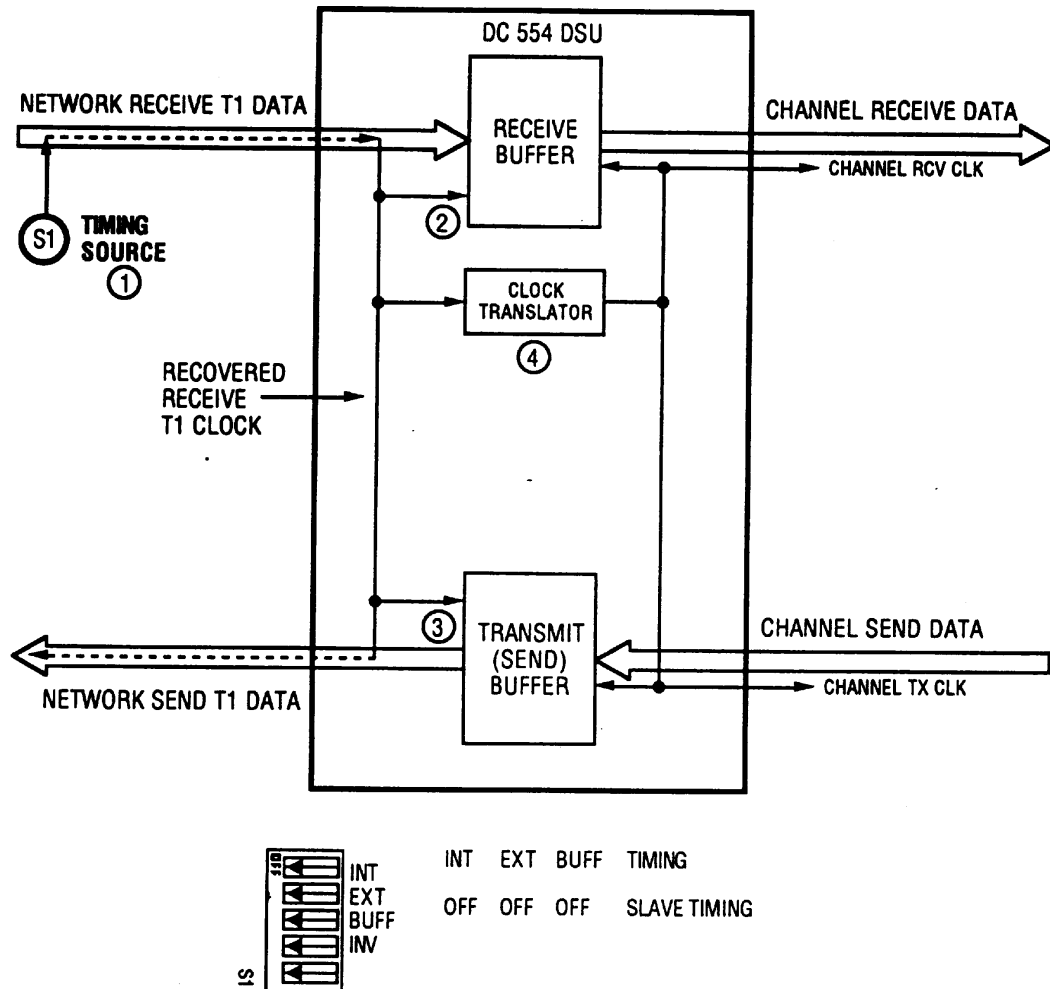

Figure 5-1 Slave Timing
With Slave Timing, illustrated in Figure 5-1, the network (or a device at the remote end) provides the timing source (1). The DC 554A DSU recovers the receive T1 clock from the network receive T1 data and uses it both to clock T1 data into the receive buffer (2) and to provide the send timing source for T1 data output from the transmit buffer (3) to the network. The DSU also translates (4) the receive T1 clock to provide the channel transmit and receive clock signals on the appropriate channel interface leads.